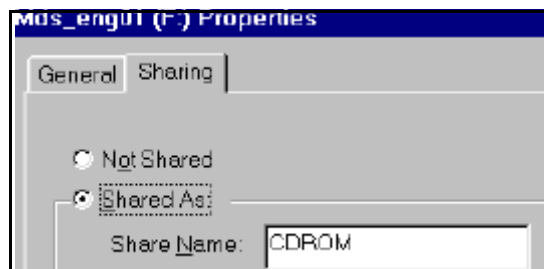

Figure 13-49 Properties Window
3. Click on *Shared As* button (① in Figure 13-49) in "Properties" window, and type **CDROM** in "Share Name:" box